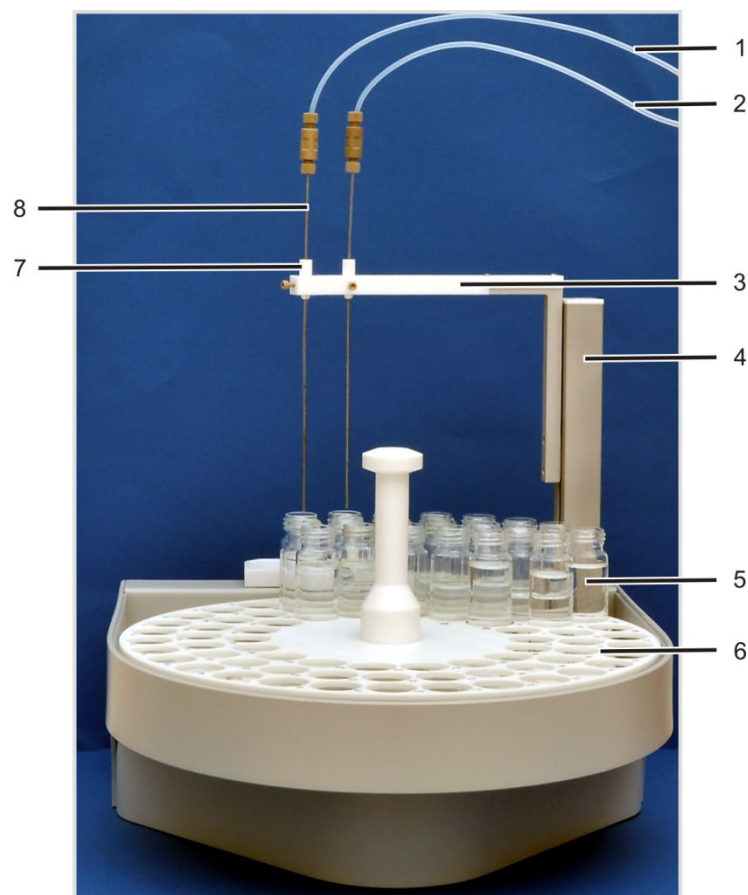

Fig. 19 Layout of the AS vario autosampler
- For NPOC measurements with parallel purging: Insert 1 cannula with sleeve into each of the two cannula holder positions (see Fig. 19).